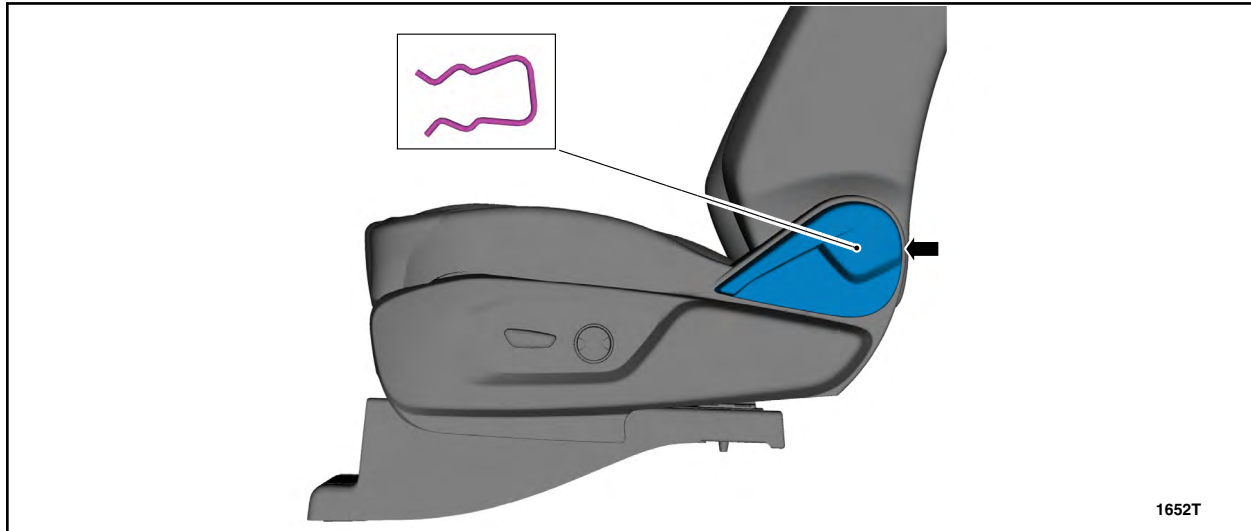

FIGURE 23
3. If equipped, remove the recline handle. See Figure 23.